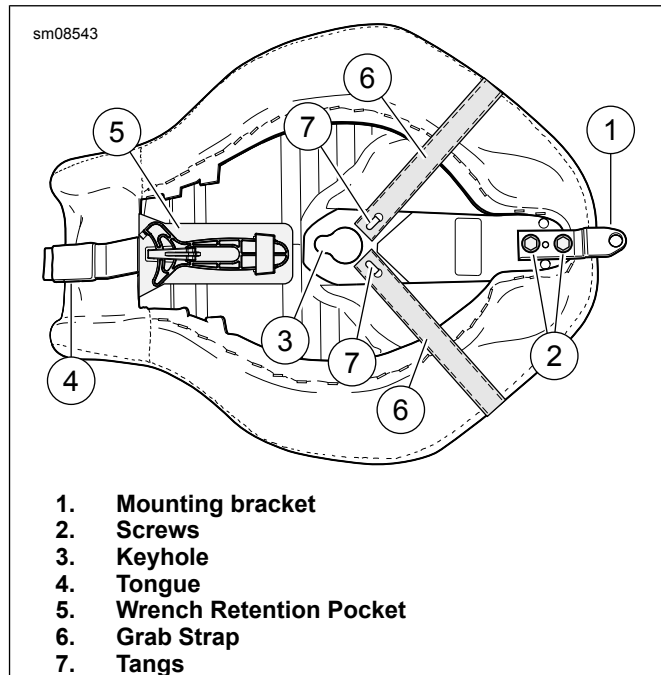

Figure 3. Bracket, Screws, Keyhole, Tongue and Grab Strap
2. For models with a shock adjustment spanner stored in the seat pan. Remove spanner from OE seat. See Figure 3. Install spanner in wrench retention pocket (5).
1. See Figure 3. Install the grab strap (6) onto the bottom of the seat. Hook one side of the grab strap onto the tang (7) on the underside of the seat. Loop the grab strap over the seat. Hook the remaining side onto the other tang.
1. See Figure 3. Angle the front of the new seat into place so the tongue (4) engages the slot at the rear fuel tank mounting location.
2. Push the seat forward. Rotate the rear of the seat downward until the seat contacts the frame. Flex the seat slightly in the middle and slide the seat toward the rear until the keyhole slot (3) on the seat bottom engages with the center seat post on the frame.